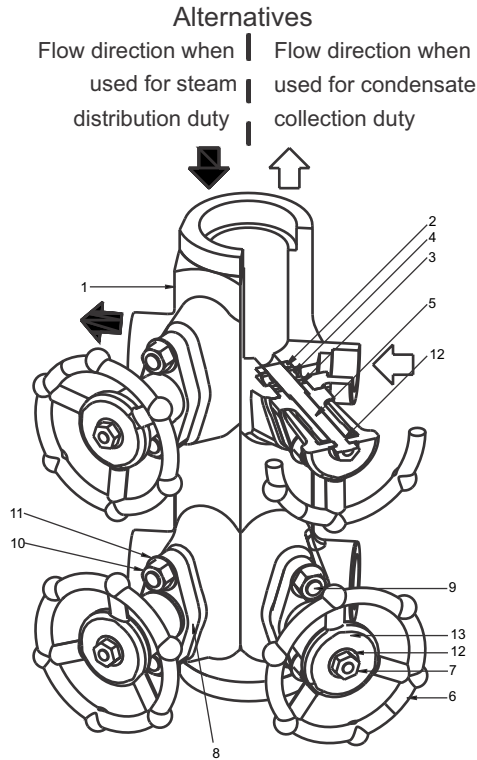

Figure 1: Forbes Marshall Steam and Condensate Manifold
4. Operation: (Refer to Figure 1)